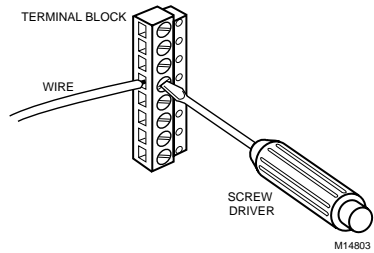

Fig. 6. Connecting wires to terminals.
2. Loosen the terminal screws on the W8735B and connect the system wires. See Fig. 6 through 9 and Table 2.